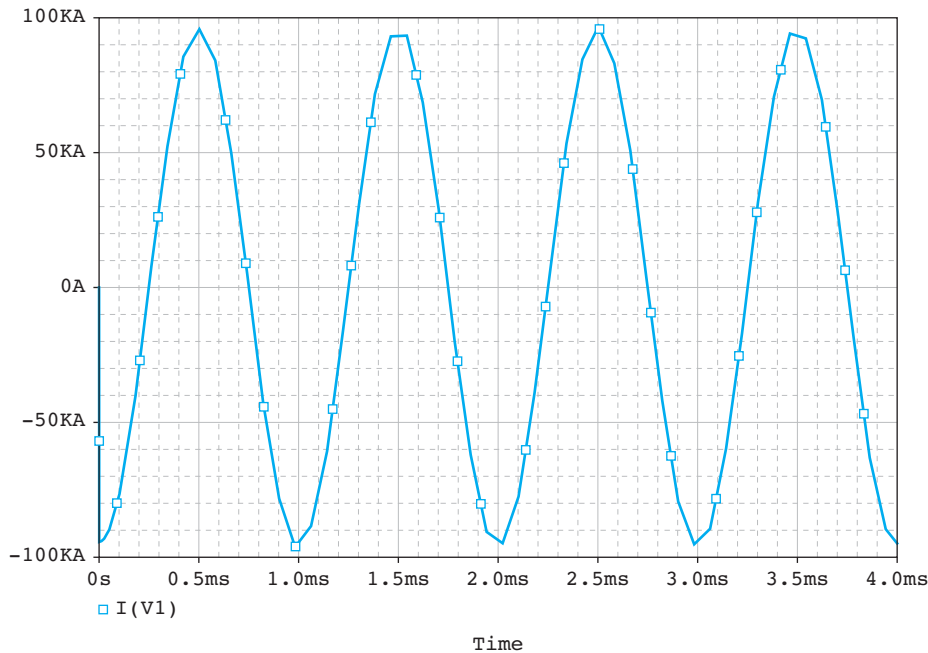

FIGURE 4.34 Results for Example 4.3.
5. To run the simulation for the capacitor and inductor circuit, choose the “Analysis Type” to be time domain (see Figure 2.71 in Chapter 2). Set the “Run to time” as 10 ms. The result is shown in Figure 4.34. Use “Add Trace” in the Trace menu (Figure 2.77 in Chapter 2), to add the current flow through the capacitor into the plot.